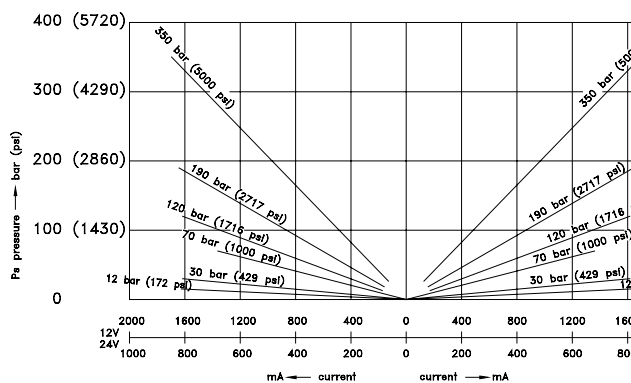

Fig. 1 DUAL TYPE
- nominal current	see diagrams Fig. 1 and 2